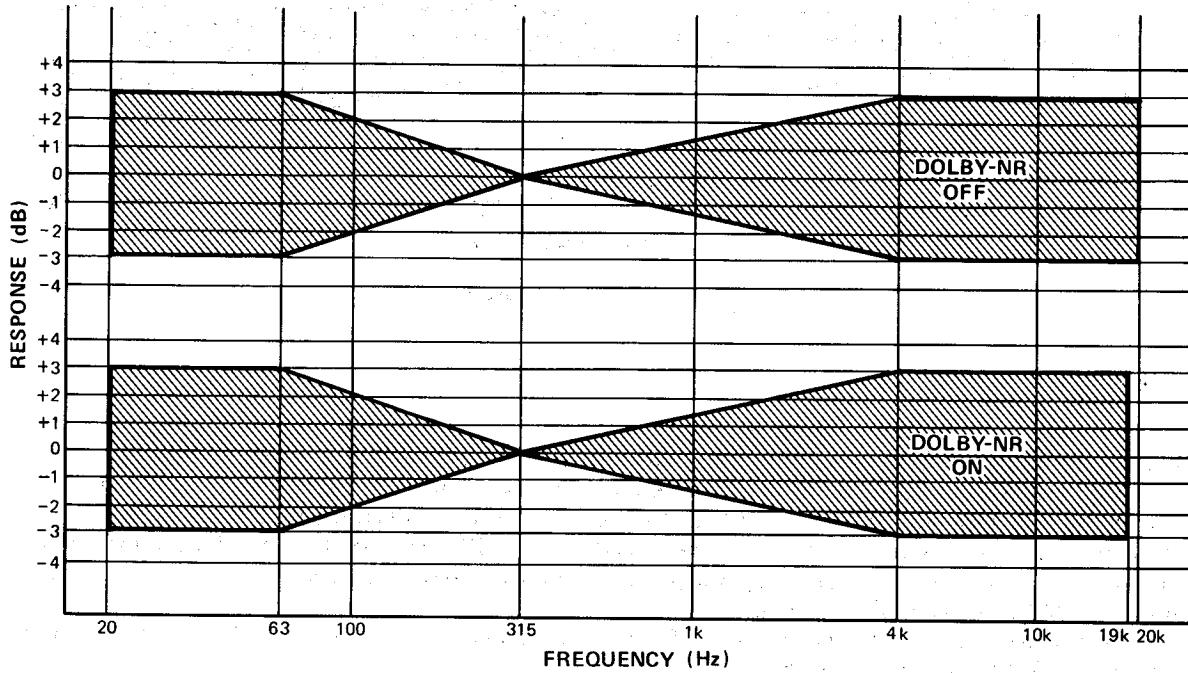

Fig. 3 — Metal
6. Play back the metal tape recorded above, note the frequency response obtained on the V.T.V.M. 2 and compare to Fig. 3.
7. If the above frequency response is not within the shaded DOLBY-NR OFF area on Fig. 3, adjust VR315 (left), VR316 (right), L301 (left peaking) and L302 (right peaking) slightly. Repeat steps 5 and 6 until playback frequency response on the V.T.V.M. 2 is adjusted within the DOLBY-NR OFF range as shown in Fig. 3.
8. Set Dolby NR switch to ON position and check if frequency response is within range of DOLBY-NR ON section of Fig. 3, if not repeat DOLBY-NR OFF procedures.